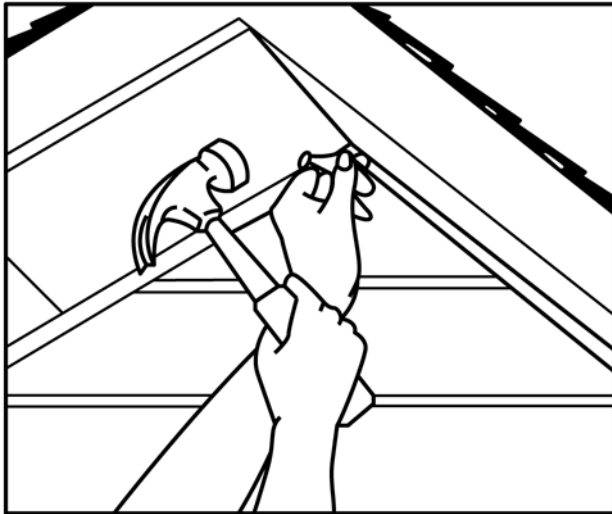

FIG. 19 Nailing of Panel at Top of Gable
9.3.8.4 If the nail hem of the panel for the top of the gable is cut off to fit the space, face nail the panel. Drill a hole slightly larger than the size of the nail shank in the center of this triangular panel. Lock the panel in place and drive one nail into the pre-drilled hole. Do not nail it tight. Nailing into the panel without a pre-drilled hole has the potential to crack or kink the vinyl. (See Fig. 19.)